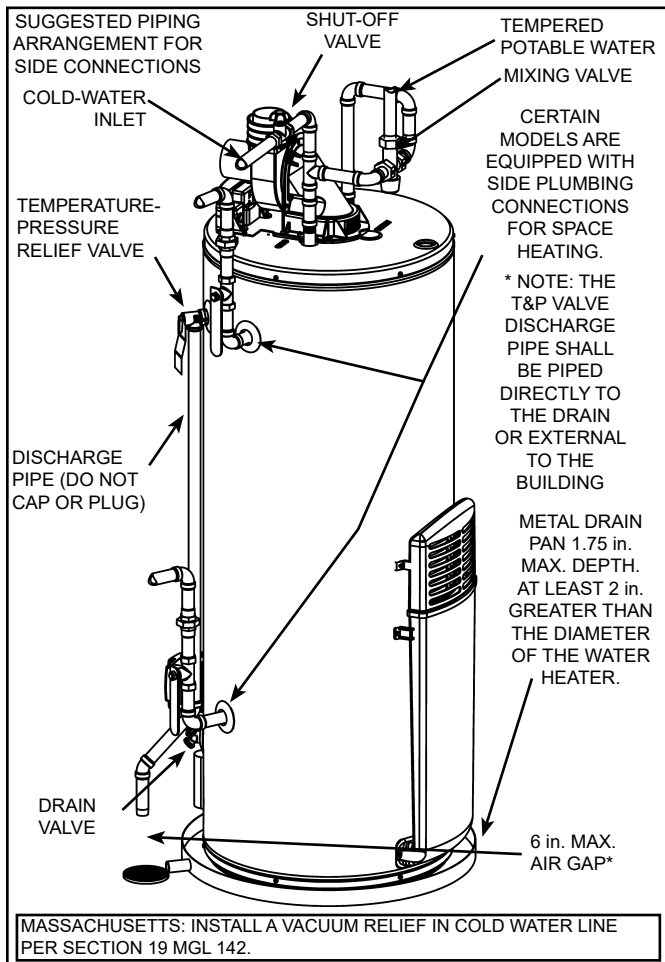
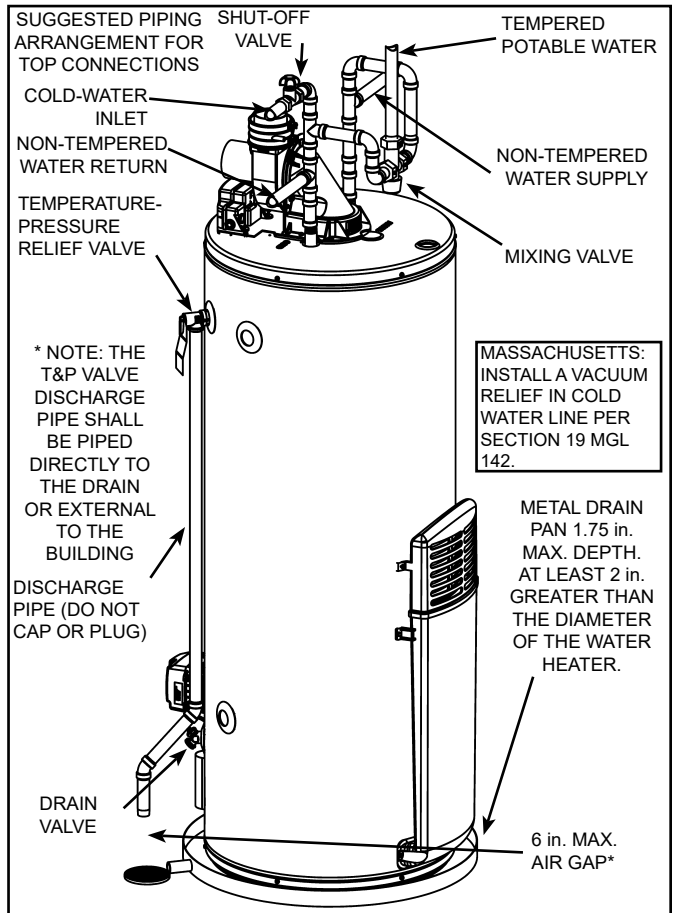

Figure 8.
Figure 9.
Models equipped with Combo Heating capabilities are shipped with the two side plumbing taps **OPEN** (item 8 and item 13 in Figure 1 and see also Figure 8 & Figure 28). If the heater is to be operated without using the side taps these openings **must be plugged** with the two pipe plugs supplied with the heaters.
In addition to using lowest possible temperature setting that satisfies demand of application, a mixing valve should be installed at water heater (see Figure 8 & Figure 9) or at hot-water taps to further reduce system water temperature. Mixing valves are available at plumbing supply stores. Consult a Qualified Installer or Service Agency. Follow mixing valve manufacturer’s instructions for installation of the valves. Before changing the factory setting on the thermostat, read the “Operating The Temperature Control System” section in this manual.